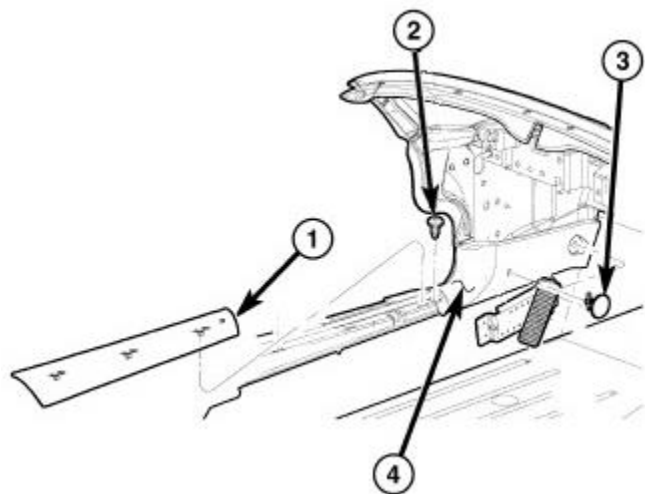

Figure 7 – Door Sill and Cowl Trim Panels
17. Using a trim stick, release the retaining clips and remove the door sill opening scuff plate (1) (Figure 7).
18. Remove the screw (2) from the cowl side trim panel (Figure 7).
19. Remove the two push pin fasteners (3) from the cowl side trim panel (Figure 7).
20. Remove the cowl side trim panel (4) (Figure 7).
63. Position the cowl side trim panel (4) to the vehicle (Figure 7).
64. Install the two push pin fasteners (3) securing the cowl side trim panel (Figure 7).
65. Install the screw (2) securing the cowl side trim panel (Figure 7).
66. Position the door sill opening scuff plate (1) to the vehicle then engage the retaining clips (Figure 7).